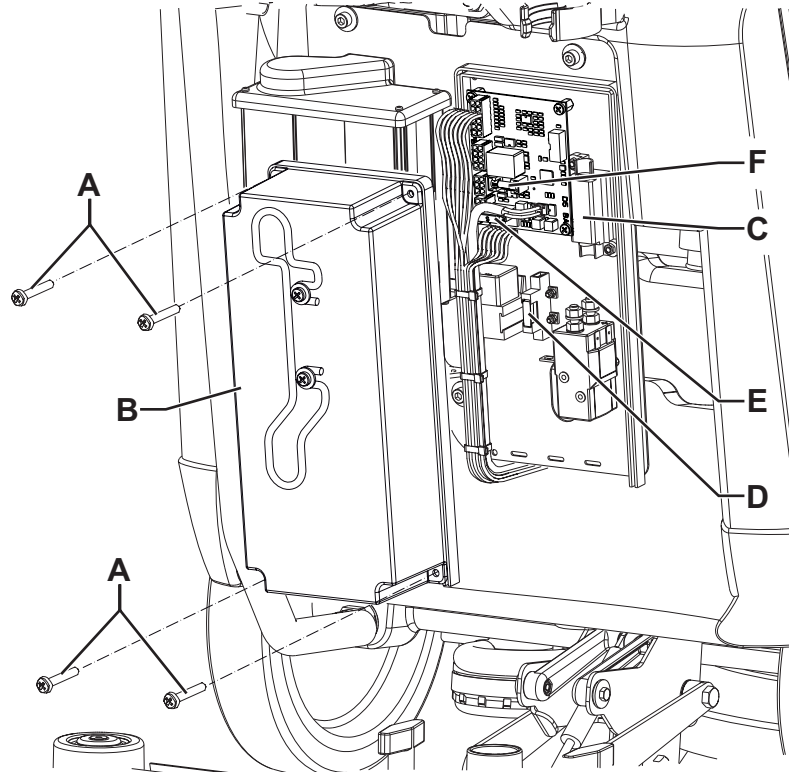

Figure 10
1. Disconnect the battery connector (29).
2. Remove the screws (A, Fig. 10), then carefully remove the electrical component box cover (B).
- (C): F1 (40 A) circuit breaker, brush motor
- (D): F2 (30 A) blade fuse, vacuum system motor.
- (E): F3 (5 A) blade fuse, solenoid valve and electronic board
- (F): F4 (20 A) glass fuse, brush disengagement system